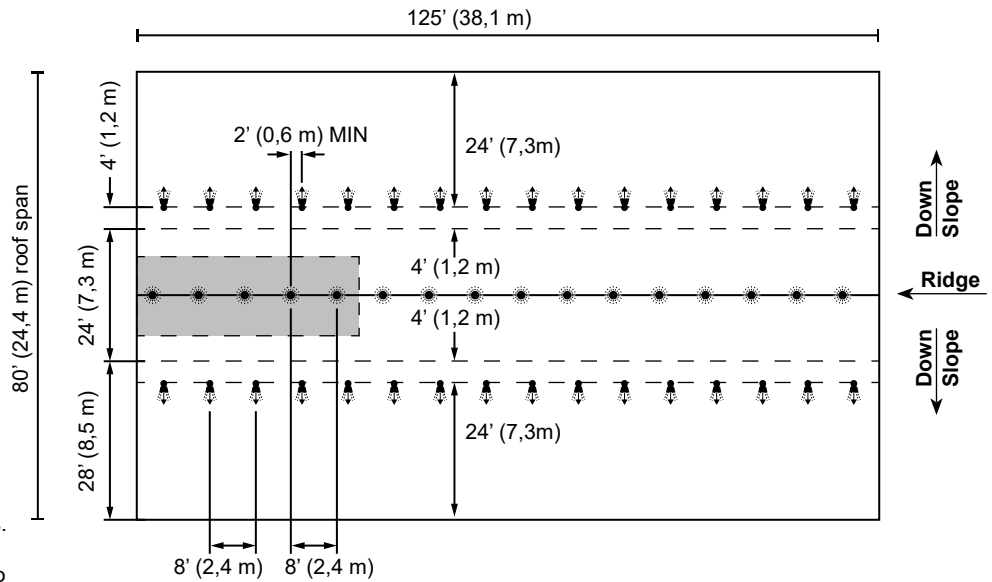

Figure 13A: Wet System Design for 80 ft (24,4 m) Roof Span
1. Figure 13A - Calculate the 5 most demanding VK697 Ridge Sprinklers. Down slope V-EP Sprinklers staggered arrangement. Continue to #2 below.